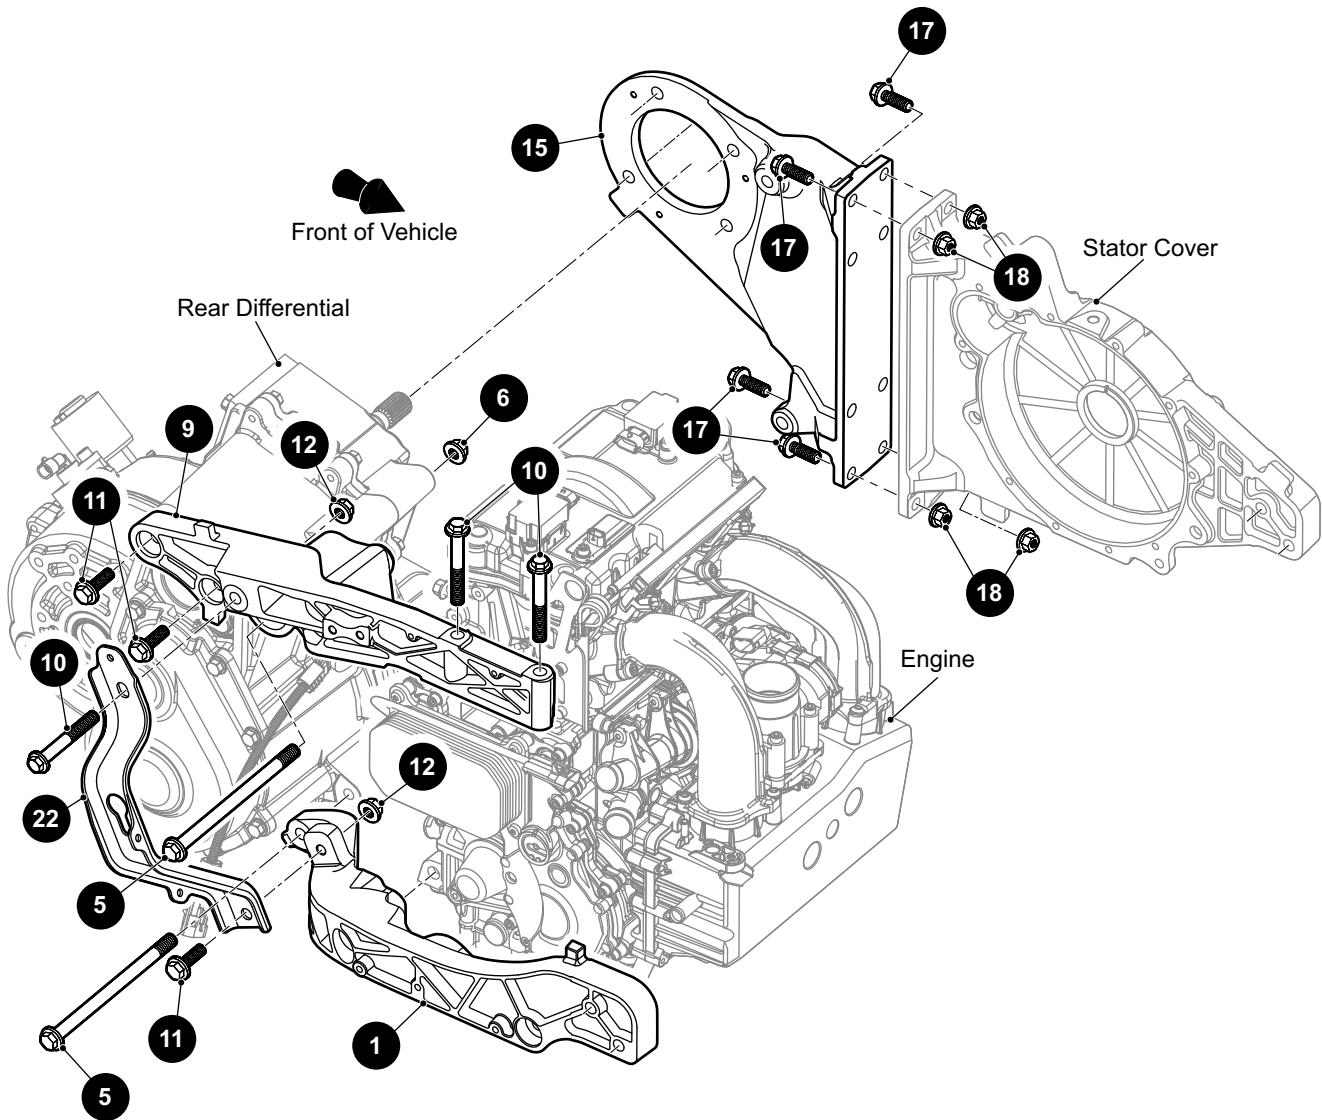
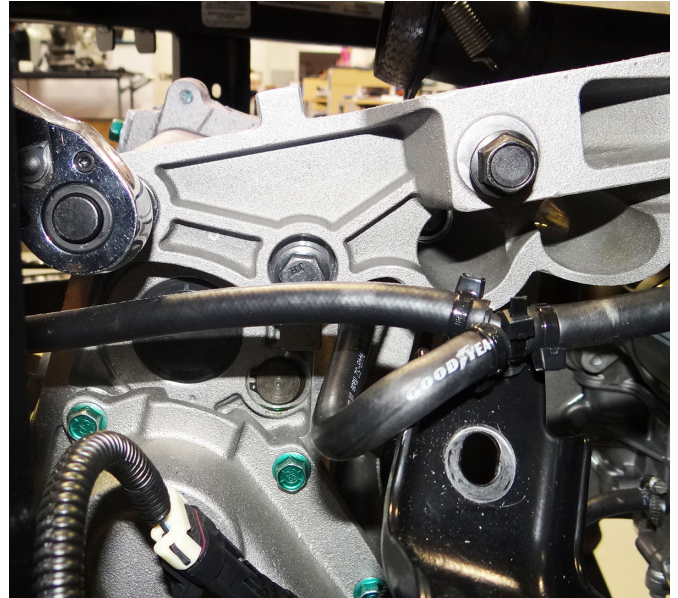
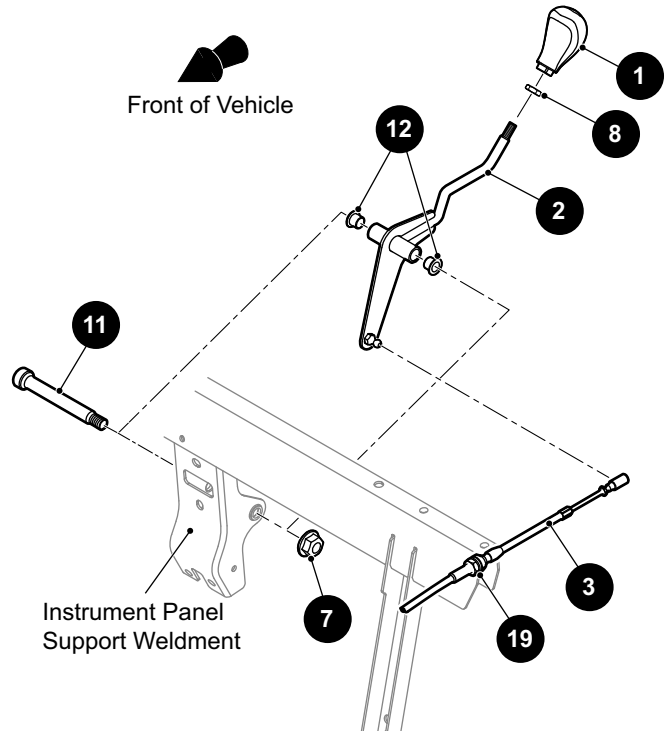
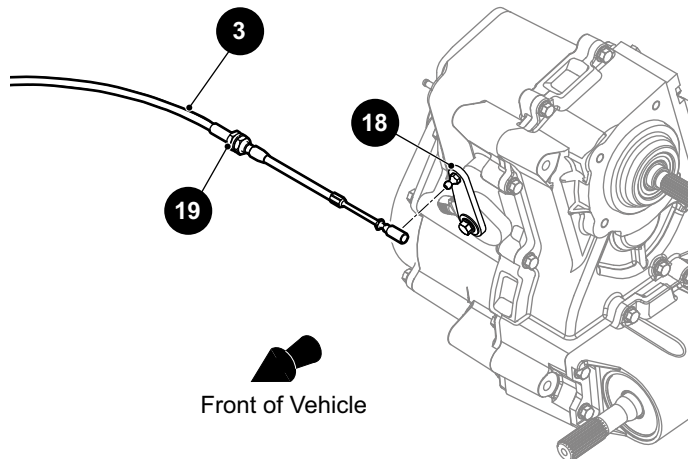

Fig. 16 Rear Differential Mounting Brackets
Fig. 22 Remove Differential Bracket
Fig. 25 Shift Lever
Fig. 26 Shift Cable
4. Remove the speed sensor (Ref. Fig. 16).
13. Disconnect the speed sensor wire (Ref. Fig. 22).
18. Remove the four bolts (17) and nuts (18) that secure the driver side differential bracket (15) to the engine stator cover (See Fig. 16)(See Fig. 22)(Ref. Fig. 25).
19. Remove the bolt (28), washer (29), isolator assembly (23) and nut (30) that secure the differential to the rear engine mount (See Fig. 16)(Ref. Fig. 26).